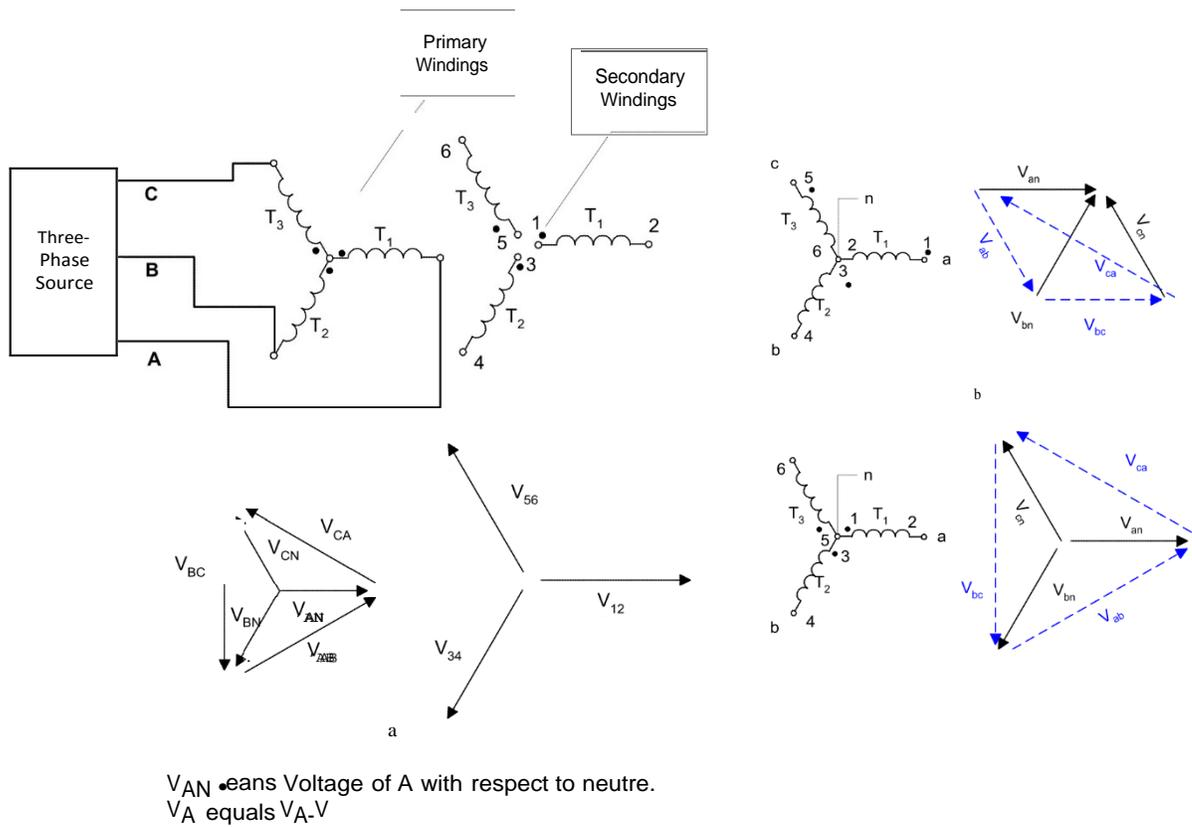
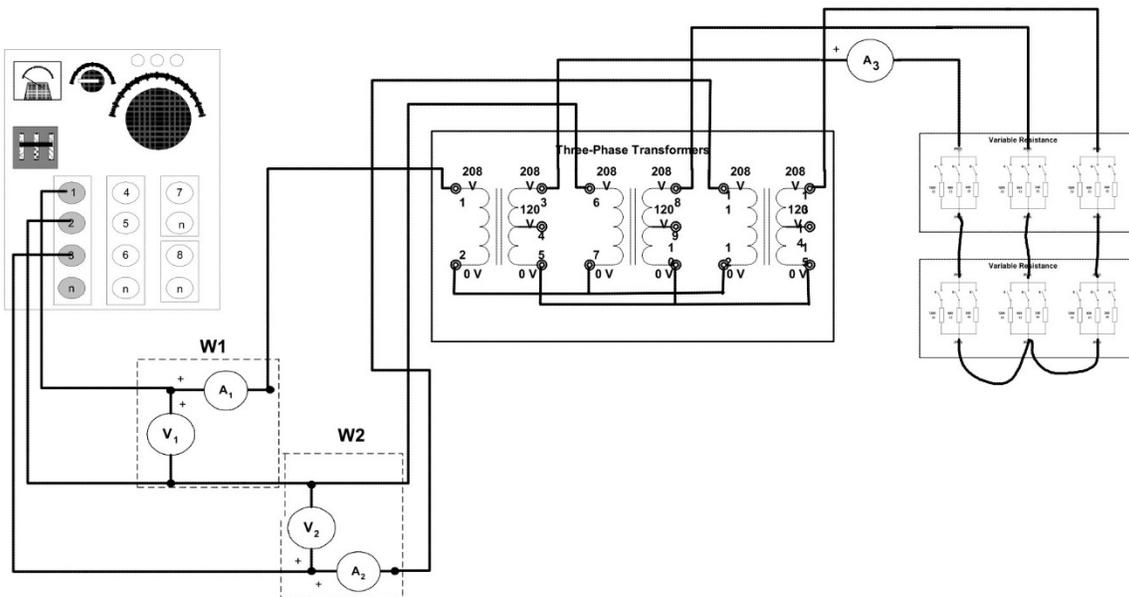

FIGURE 5.5
FIGURE 5.8
The Y-Y connection (Figure 5.5) is very rare because it creates serious disturbances in communication circuits in their immediate vicinity (e.g. telephone interference). The exciting current and induced third harmonic voltages mainly cause these problems when the neutral connection of the primary winding to the source neutral is lost.
Like with A/A connection, the electrician must connect the windings so the system voltage keeps balanced. Figure 5.5 shows some examples of some possible Y-Y connections, however just one is correct. Which figure (Figure 5.5b or Figure 5.5c) is right connected so the voltage system is balanced? Explain
- 1) Analyze the circuit shown in Figure 5.8 (refer to Figure 5.5 to see how the transformer bank is connected internally) assuming that the transformer ratio of every single-phase transformer is 1:1 and
- Step 1: Connect the circuit shown in Figure 5.8. Neutral connection will not be used. Use the fixed output of the power supply as your power source. The single-phase transformer ratio to be used is 1:1.